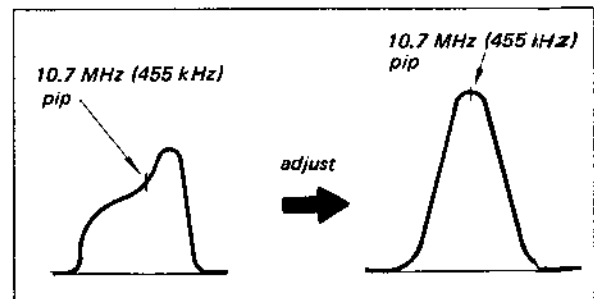

Fig. 3-6 Fm and a-m i-f alignment response curve
4. Turn the cores of fm i-f transformers FM IFT-A (yellow), FM IFT-B (green), FM IFT-D (blue), to obtain a maximum and symmetrical response as shown in Fig. 3-6.